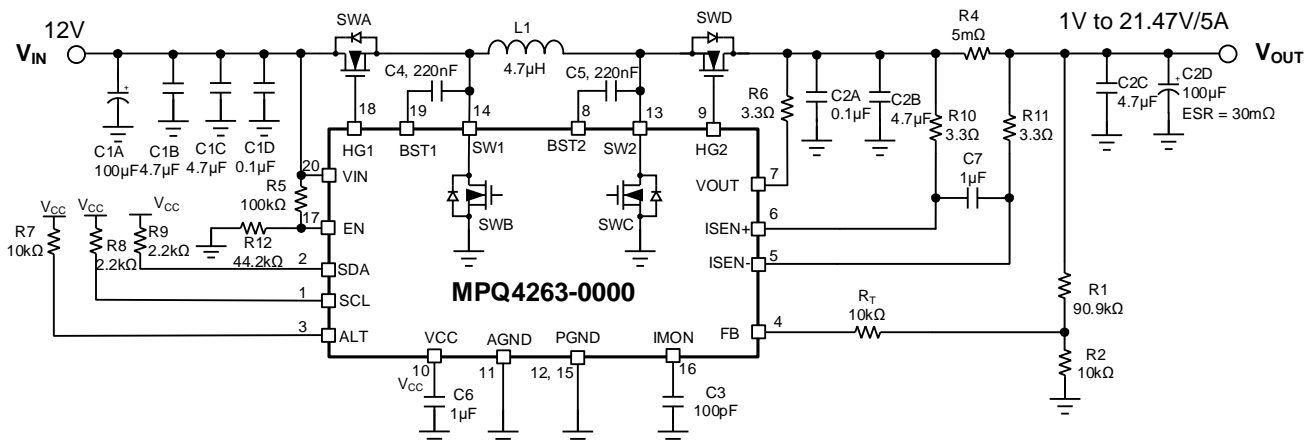

Figure 16: Typical Application Circuit ($V_{IN} = 12V$, $V_{OUT} = 3.3V$ to $21V$, Default On)
- 9) The recommended layout is based on the typical application circuit (see Figure 16 on page 42).